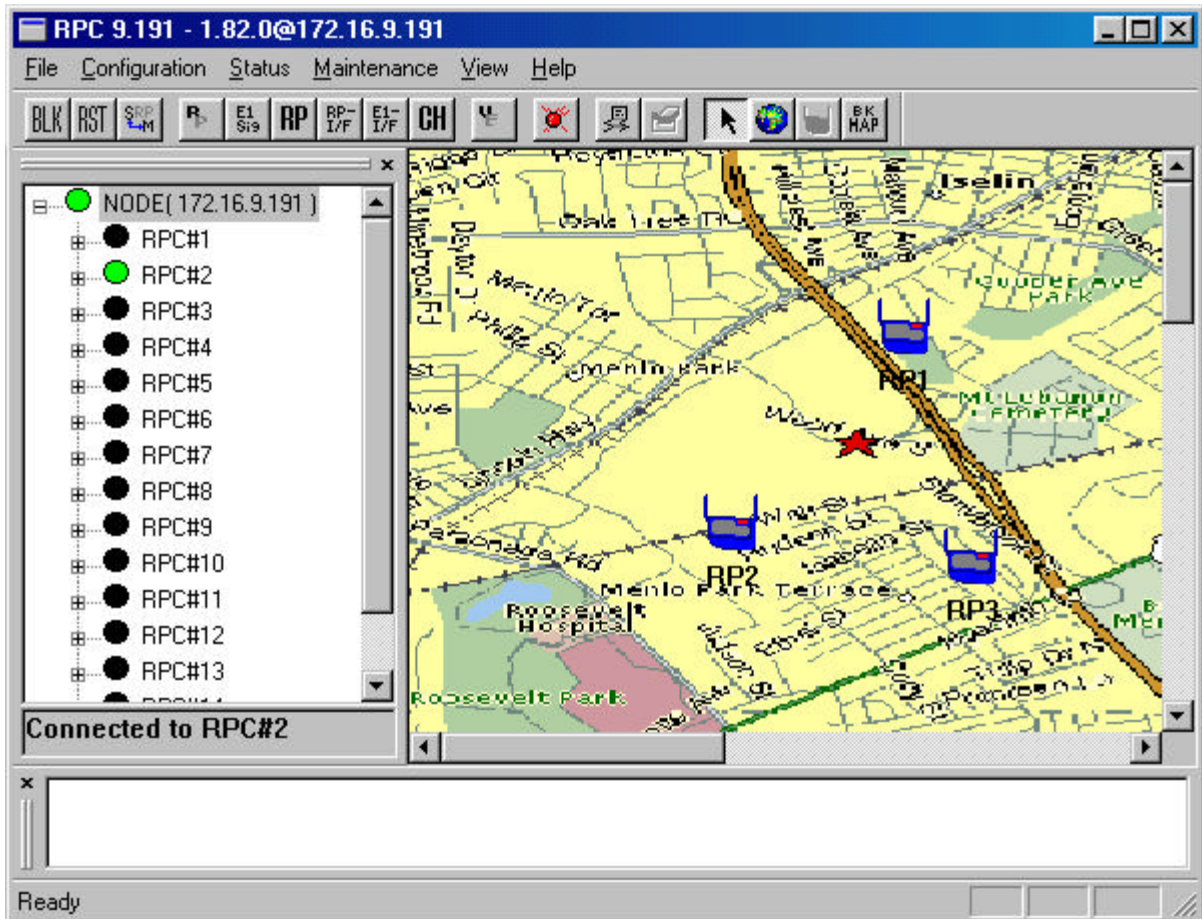

Figure 4-12: RP Map Window
2. This window is similar to that in Figure 4-9. Enter the relevant data into the fields and click ***Finish***. The RP icon appears on the map and the data are stored in the database. Repeat this process to add as many RP icons as needed. Figure 4-12 illustrates a map with three RP icons.